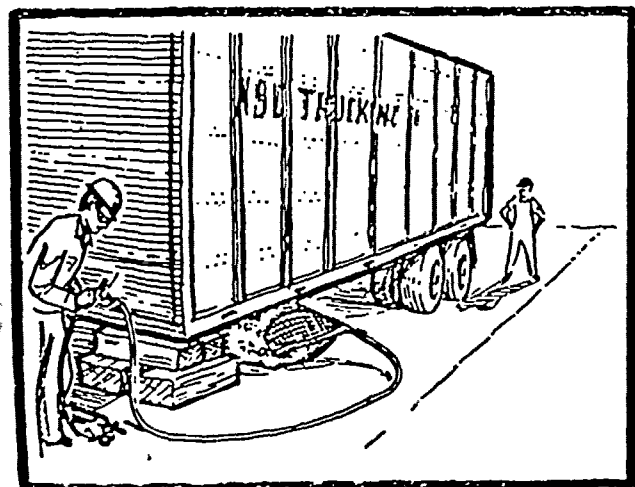

FIG. 16
4. As the Bag is being inflated, stand to one side and clear all other personnel from the vicinity. Do not stand in front of the opening where the Bags have been placed, as there is a possibility of Bags being pushed out by the load shifting (Fig. 16).